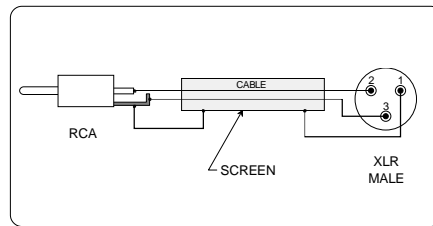

Figure 4. XLR to RCA connector for unbalanced operation.
- Connect an audio frequency signal generator to one of the channels used in the system. If the signal generator has an unbalanced output use a cable with pin 3 grounded to pin 1 at the input as shown in figure 4 below.
to be used then an RCA to XLR connection is required; the electrical connection diagram is shown in fig. 4.